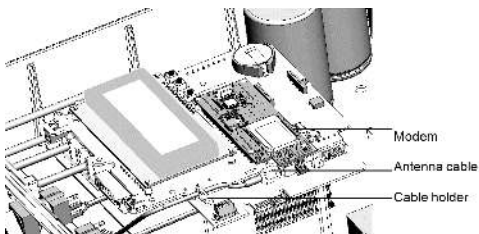

Figure 13: Installed modem and antenna cable
8. Pull the excess cable into the inverter so that the cable can be attached to the inverter communication board (see *Figure 13*). The cable connects to the GSM modem as described in the next section.
4. Connect the antenna cable to the cellular modem and tighten manually (see *Figure 13*).